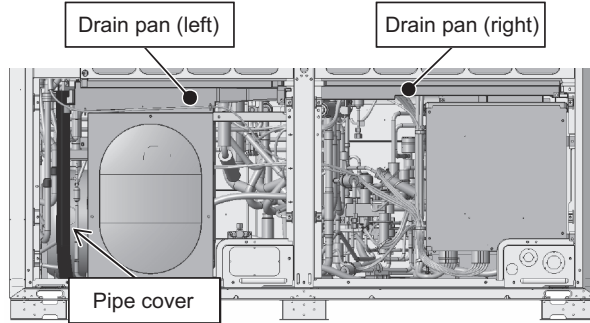

Figure 2
- (6) Remove the drain pan by unscrewing the two screws. (See Figure 2.)
Be sure to remove the two rod holders holding the check joints to the drain pan. (Figures 2 and 3 show the cable ties to be cut.)